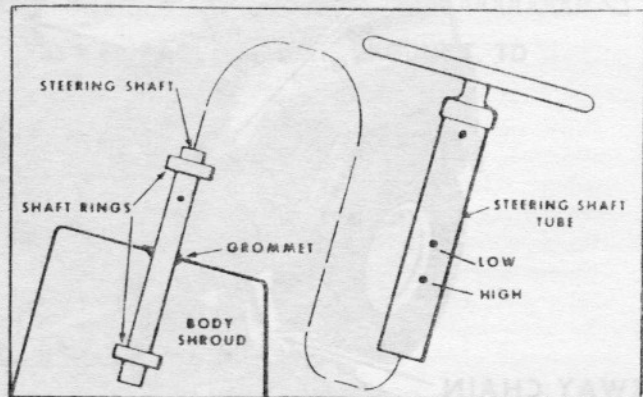

FIG. 3
4. There are two (2) holes in the steering shaft to permit a selection of heights of the steering wheel. Choose the position most comfortable to you. (See Fig. 3)